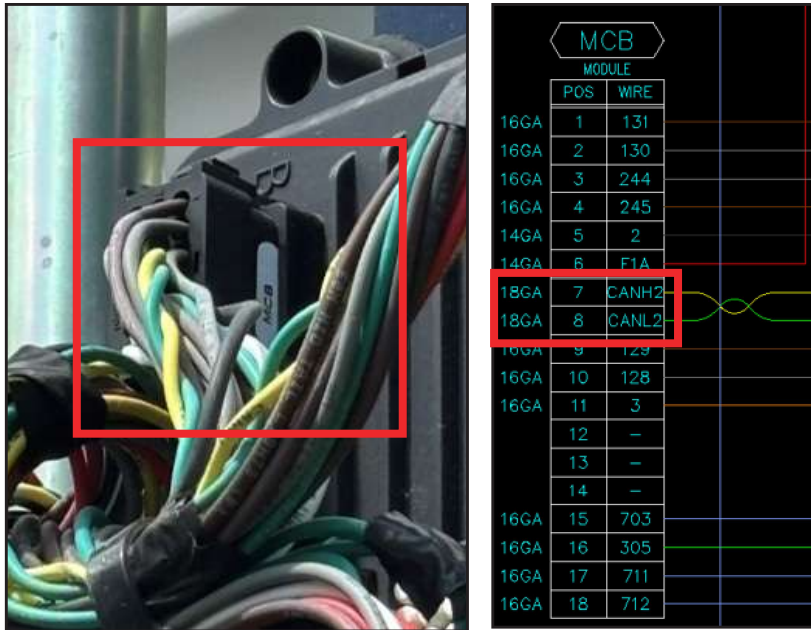

Figure 3
7. On the 5-Port Body Module, locate the plug labeled MCB (on the top left side of the 5-Port module) (Figure 3).